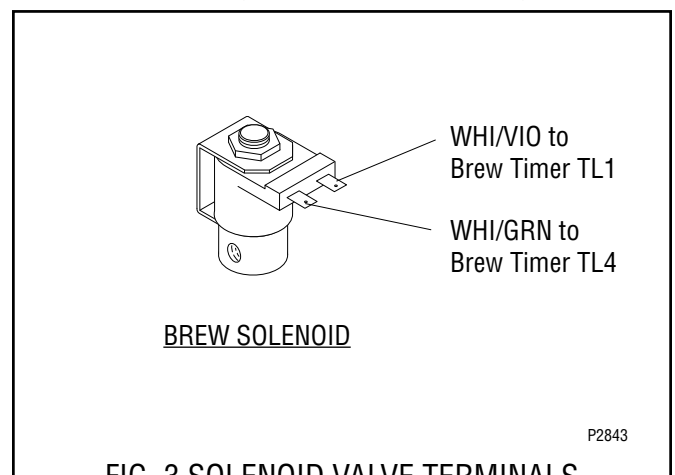

FIG. 3 SOLENOID VALVE TERMINALS
10. Refer to the Fig. 3 when reconnecting the wires.